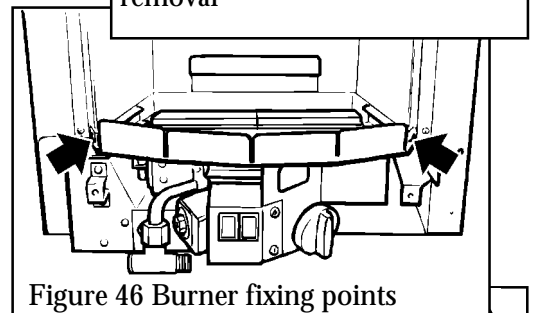

Figure 46 Burner fixing points
15.3.4 Detach the burner unit from the convection box by removing 2 screws (see figure 46). Carefully lift the burner unit forward making sure that the unit does not snag on any leads. Rest the burner on its front face to allow access to the pilot and gas tap.